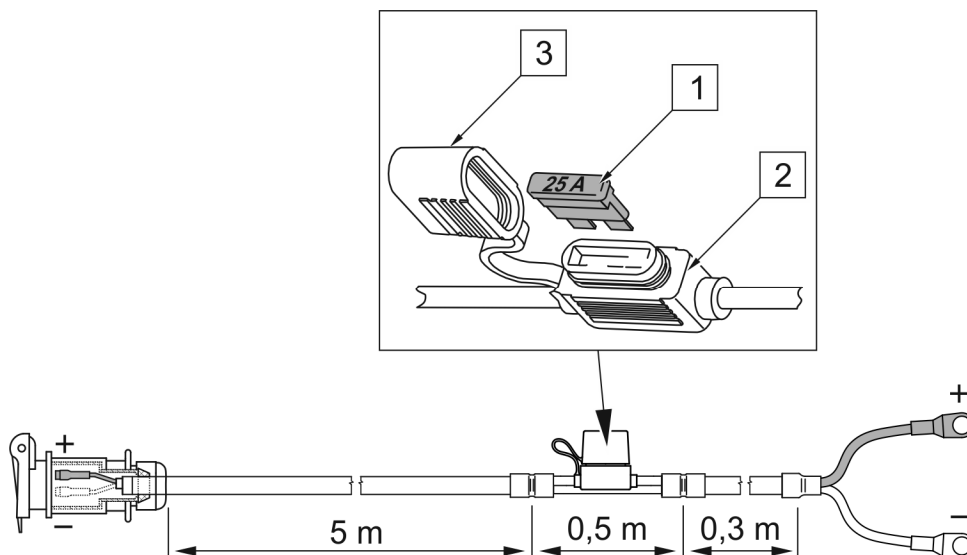

FIG. 5.5 Replace fuse for lighting power supply
(1) - UNIVAL 25A fuse; (2) - fuse holder; (3) - protective cover
There is a (1) UNIVAL 25A fuse on the power cable (FIG. 5.5) of the lighting control panel. To replace the fuse, remove protective cover (3) and take the fuse (1) out from holder (2).